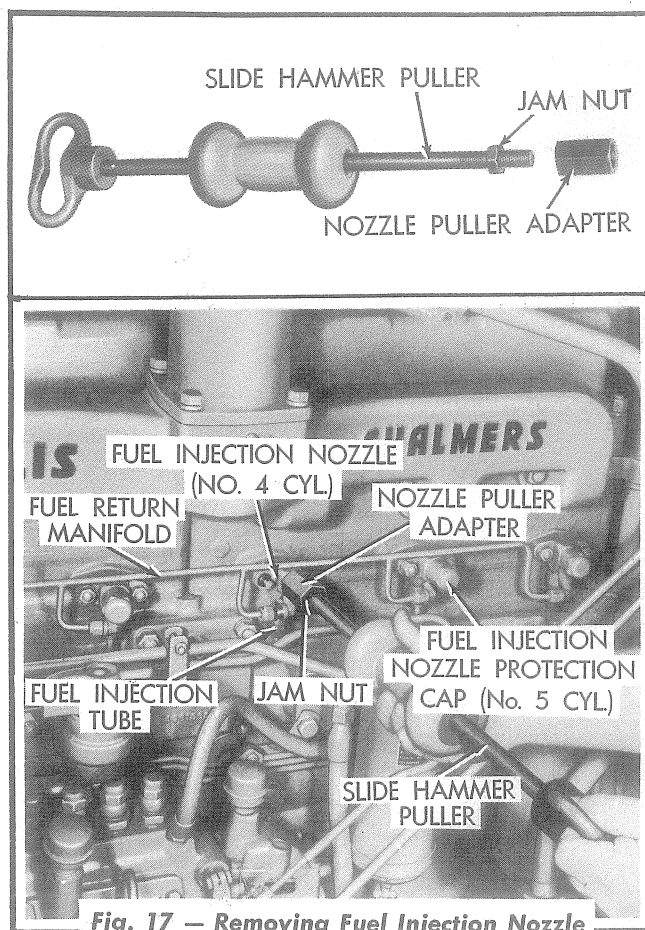

Fig. 17 — Removing Fuel Injection Nozzle (Tractors Prior to Serial No. 4001)
3. Remove the nozzle protection cap (Fig. 17) from the nozzle. Remove the nuts and lock-washers securing the nozzle to the cylinder head.
4. A nozzle puller adapter and slide hammer puller (similar to the ones shown in Fig. 17) are used to pull the fuel injection nozzles.